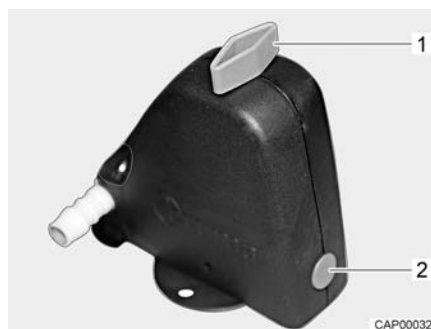
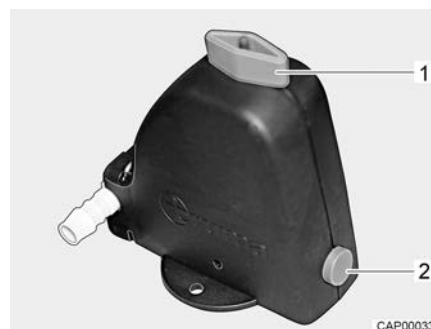

Fig. 194 Safety/drainage valve closed
Fig. 195 Safety/drainage valve open
- Open the safety/drainage valve (Fig. 194). To do this, turn the knob (Fig. 194,1) parallel to the safety/drainage valve. The push button (Fig. 194,2) jumps out. The open safety/drainage valve is shown in Fig. 195.